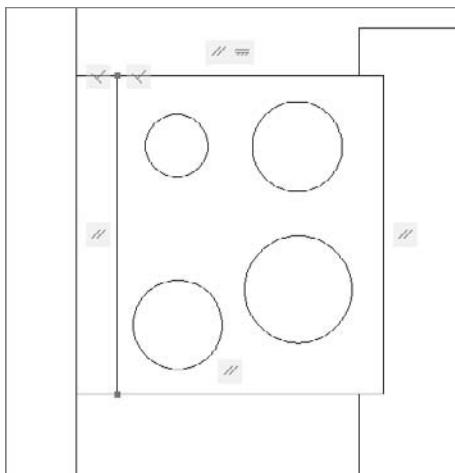

FIGURE 5.51 Rough schematic representation of the stove
4. The command prompt changes from **Specify center point for circle or:** to **Base point:**. Draw four circles as shown in Figure 5.51.